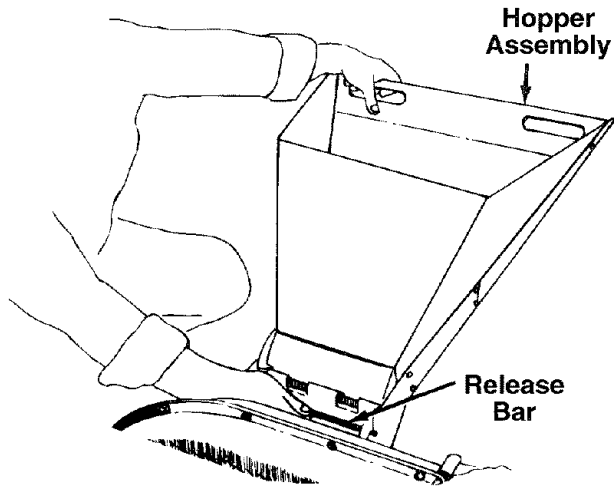

FIGURE 10.
**RELEASE BAR**—Used to release the hopper when raising or lowering. See figure 10.
- To lower the hopper assembly, use one hand to grasp the handle at the top of the hopper assembly and lift slightly. Pull up on the release bar, and lower the hopper assembly to the ground. Release the bar. See figure 10.